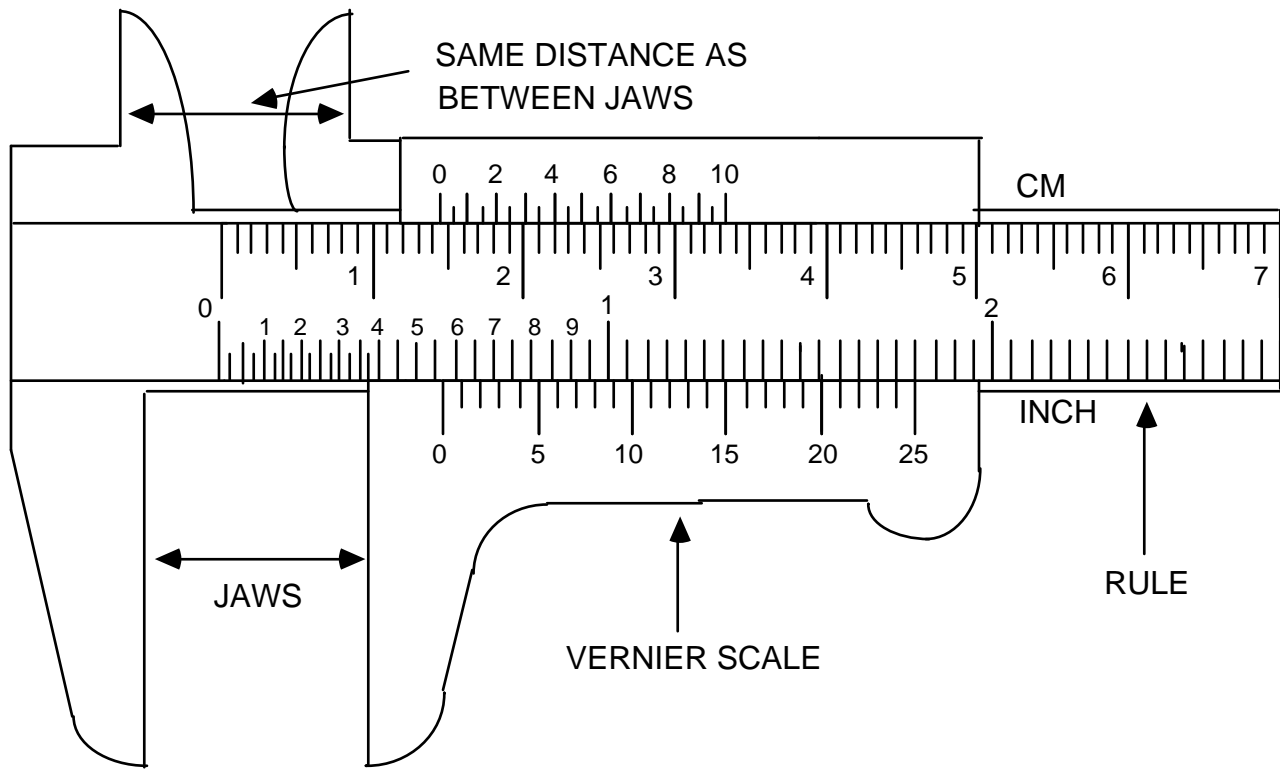

Figure 1: Vernier Caliper
Looking at the vernier caliper in Fig. 1, notice that while the units on the rule portion are similar to those on an ordinary metric ruler, the gradations on the vernier scale are slightly different. The number of vernier gradations is always one more than the number on rule for the same distance. The line on the vernier which is aligned with one on the rule tells us the fraction of the units on the rule.
- (1) Roll the thumb wheel until the jaws are completely closed (touching each other). Now check whether the caliper is reading exactly zero. If not, record the caliper reading, and subtract this number from each measurement you make with the caliper.
- (2) Use either the inside edges of the jaws, or the outside edges of the two prongs at the top of the caliper to make your measurement. Do not use the tips of the prongs. Roll the thumb wheel until these surfaces line up with the end points of the distance you are measuring.
- (3) To read the caliper:
- (a) record the numbers which correspond to the last line on the rule which falls before the index line (marked as 0) on the vernier scale. In Fig 1, this would be 1.4 cm since the index line falls after the 1.4 cm line and before the 1.5 cm line.
- (b) count to the right on the vernier scale until you reach a vernier line which lines up with a line on the rule and record the number of this vernier line as your last digit. In Fig 1, it is the vernier line marked 4 (rather than the 4.5 line, say) which is aligned with one on the rule. The full vernier scale corresponds to one small division on the main scale, that is,  $.1 \text{ mm}$ , so the vernier tells us to add  $.4 * .1 = .04 \text{ cm}$ , so the whole distance is  $1.440 \text{ cm}$ .
*Alas, the inch scale vernier of Fig 1 is not marked correctly; the correct corresponding reading would be  $.567 \text{ inches}$ , so the inch vernier should have lined up at about 17 instead of 25:  $.55 \text{ inches} + .017 \text{ inches}$ ).*